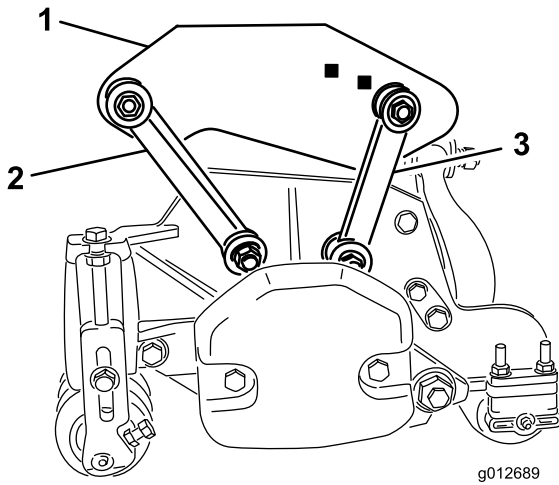

Figure 19
- Secure the front mounting links to the carrier frame holes with a bolt (3/8 x 2-1/4 inch), 2 flat washers, and a locknut, as shown in Figure 19. Position a washer on each side of the link when mounting. Torque the fasteners to 42 N-m (31 ft-lb).
- Secure the rear mounting links to the rear carrier frame holes with a bolt (3/8 x 2-1/4 inch), 2 flat washers, and a locknut, as shown in Figure 19. Position a washer on each side of the link when mounting. Torque the fasteners to 42 N-m (31 ft-lb).